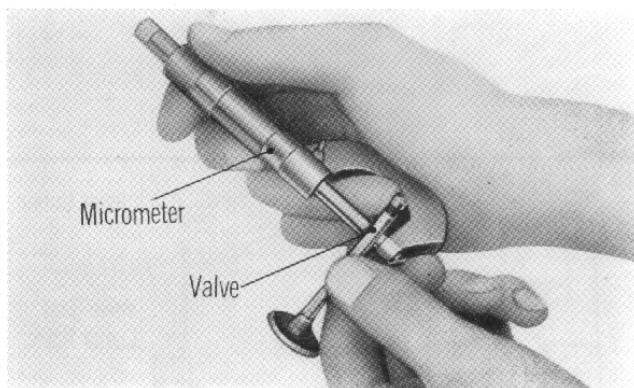

Fig. 22
- The valve stem diameter is measured with a micrometer. (Fig. 22).